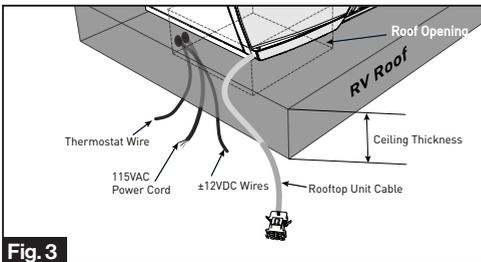

Fig. 3
2. Reach up into the return air opening and pull the rooftop unit electric cord, 115VAC power cord, ± 12 VDC and thermostat wires. (Fig. 3)